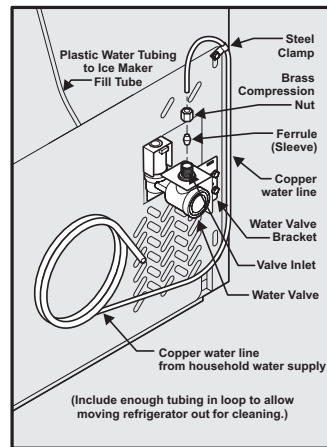

Figure 1
4. **If you use copper tubing** - Slide brass compression nut, then ferrule (sleeve) onto water supply line. Push water supply line into water valve inlet as far as it will go (¼ inch/6 mm). Slide ferrule (sleeve) into valve inlet and finger tighten compression nut onto valve. Tighten another half turn with a wrench; DO NOT overtighten. See Figure 1.